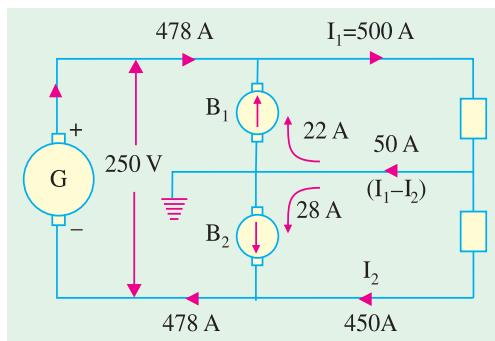

Fig. 40.47
**Solution.** As shown in Fig. 40.47, let larger load current be  $I_1 = 500$  A. Since  $(I_1 - I_2) = 50$
As seen from Fig. 40.47, current of